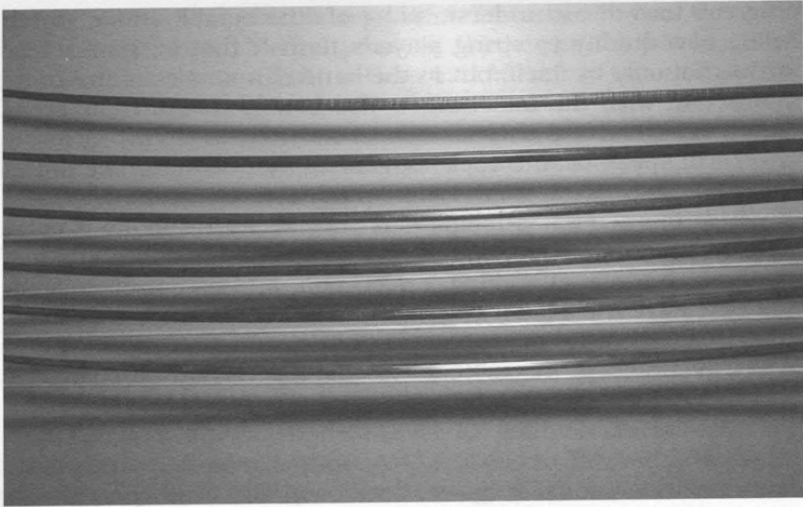

Figure 1
*Benoit Rolland:* Have you ever tried to photograph a bow? I mean, a whole bow as it is being played, seen close enough to show technical features? The result is usually disappointing. A bow is perhaps one of the last attractive things on earth that does not photograph well. Catalogs and reference books are illustrated with frog head twin-sets, but imagine a book lining up chopped-sticks (Figure 1). Hard to identify, aren't they?